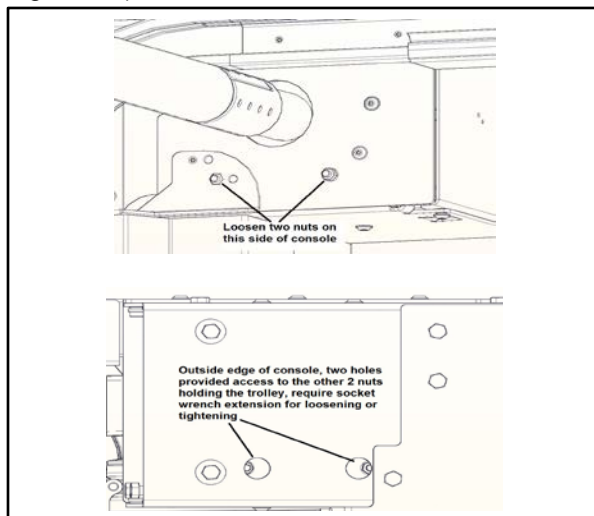

Figure 60
6. The four nuts that secure the trolley need to be loosened to allow the trolley to be adjusted. (See Figure 60.)